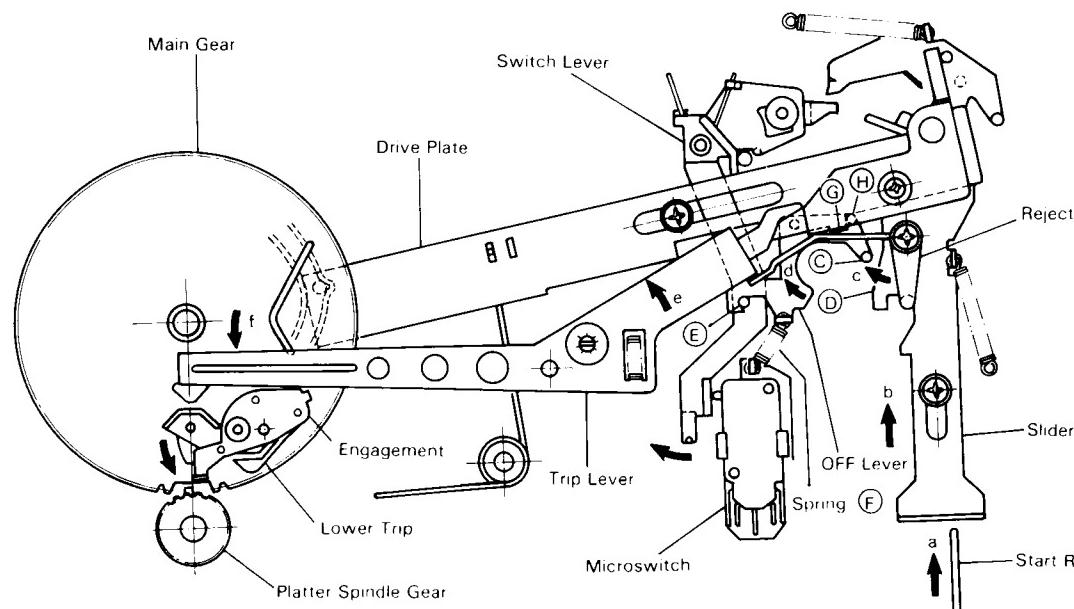

Fig. 1
If you press the START/STOP button when the tonearm is on the rest, the mechanism operates as described below to turn ON the turntable's power and prepare to move the tonearm to the predetermined position on the record. Operation (See Fig. 1). When the start rod is pushed in direction "a", the slider moves in direction "b". During this time, cam (D) of the slider pushes part (C) of the off lever, which is in turn rotated in direction "d", thus unlocking boss (E)